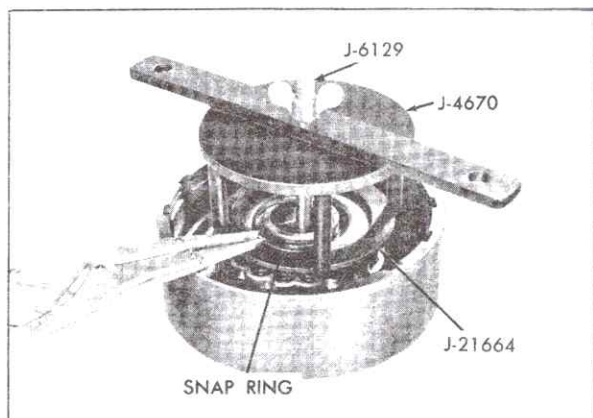

Fig. 7-69 Removing and Installing Direct Clutch Housing Snap Ring
5. Using Clutch Spring Compressor, J-4670, Rear Clutch Spring Compressor, J-6129, or an arbor press, and Adapter, J-21664, Fig. 7-69, compress spring retainer and remove snap ring with Snap Ring Pliers, J-8059 or J-5586.
6. Using Clutch Spring Compressor, J-4670, Rear Clutch Spring Compressor, J-6129, or an arbor press, and Adapter, J-21664, Fig. 7-69,